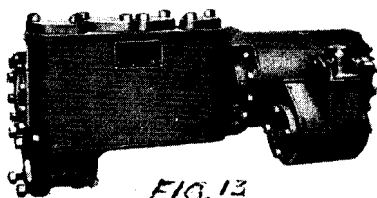

FIG. 13
- (c) The hot water pump (Fig. 13, page 21) mounted on the side of the boiler.